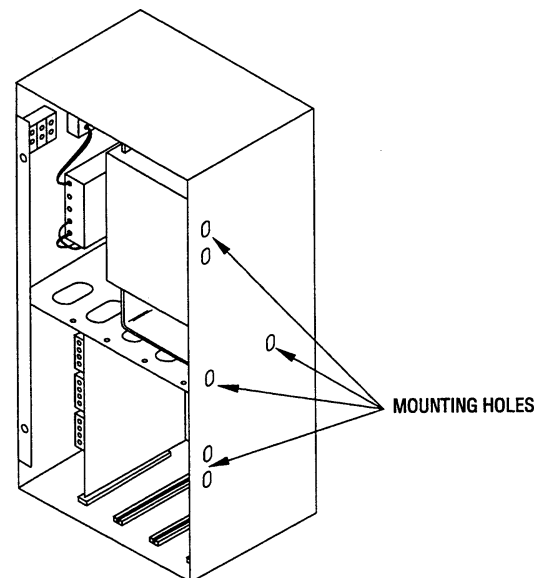

Figure 8-17. Main Control Box
8. Refer to Figure 8-17. Unbolt four 3/8" nuts and bolts that connect the two control box brackets to the sterilizer frame.